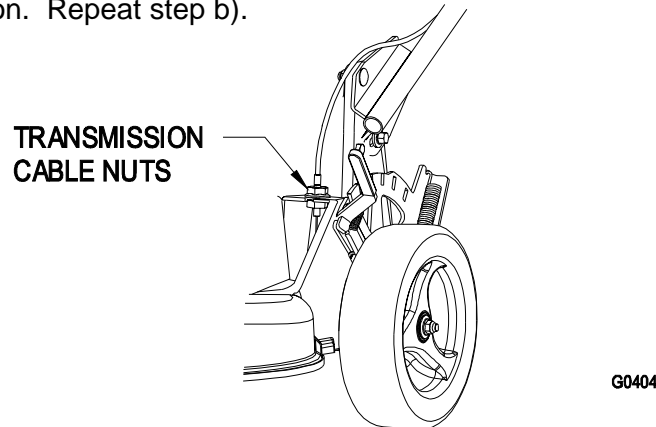

FIGURE 22
- c) If the lawn mower creeps forward, rotate the transmission cable nuts 1/2 turn counterclockwise to loosen the belt (Figure 22).